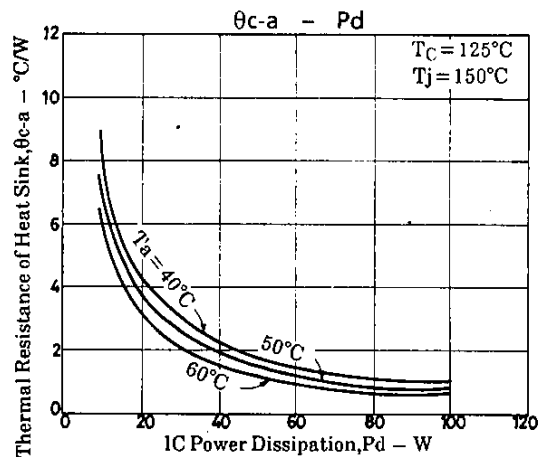

Fig.2 STK4231 II. $\theta_{c-a} - P_d$
Fig. 2 shows the relation between P_d and θ_{c-a} given from (1) and (3) with T_a as a parameter.
The thermal resistance of a heat sink is obtained from Fig.2.